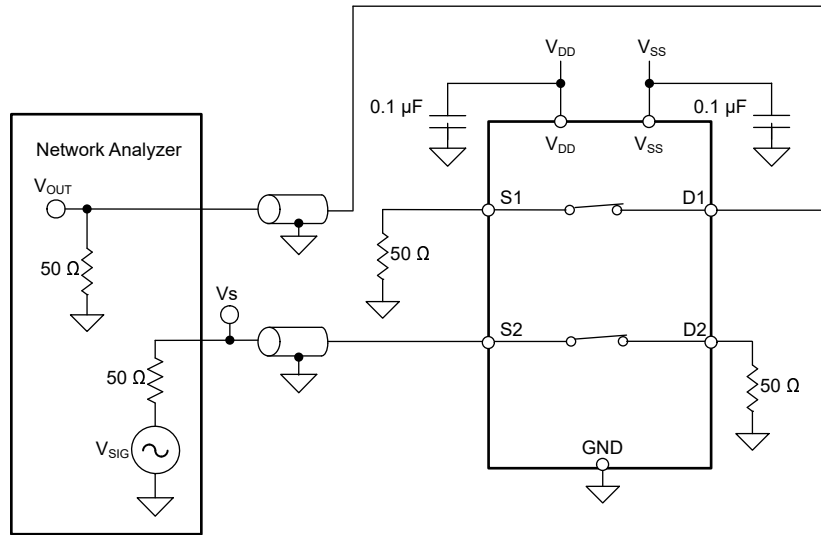

图 6-9. Crosstalk Measurement Setup
Crosstalk is defined as the ratio of the signal at the drain pin (D) of a different channel, when a signal is applied at the source pin (Sx) of an on-channel. 图 6-9 shows the setup used to measure, and 方程式 3 shows the equation used to calculate crosstalk.